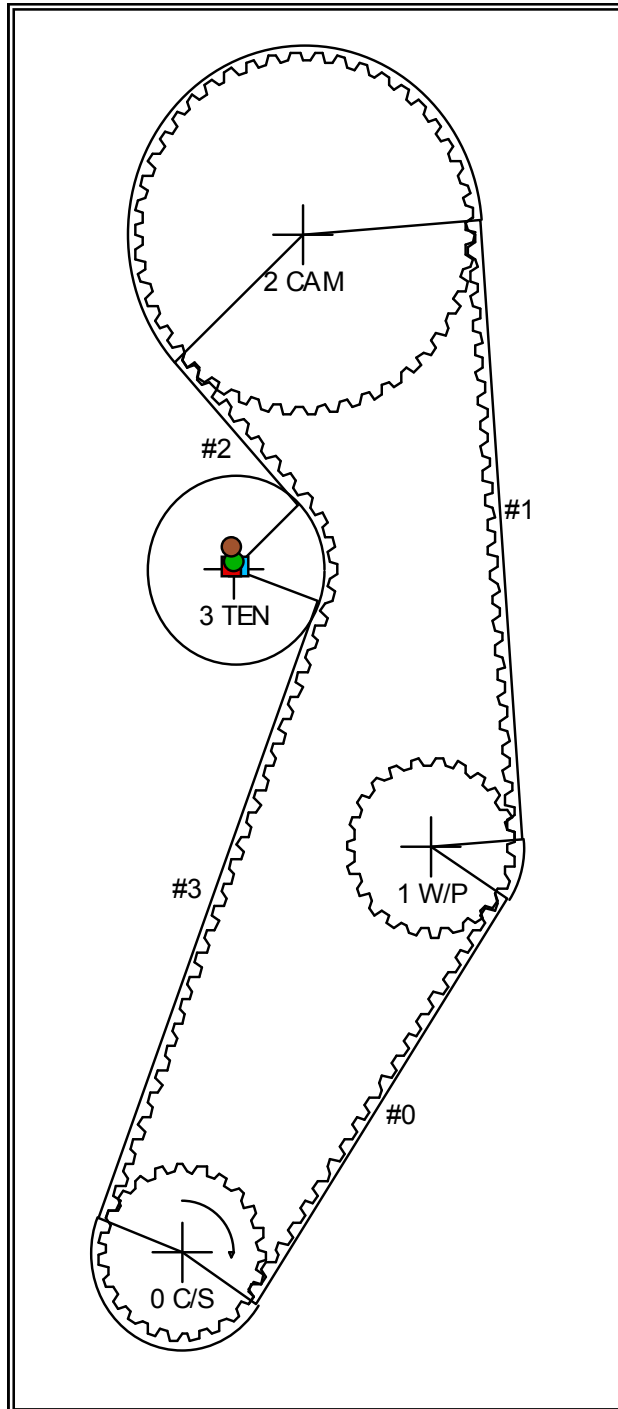

Figure 4: Timing Drive Layout
10. Install the timing belt by following the assembly sequence described below (see Fig. 4). Ensure belt is taut between the sprockets: